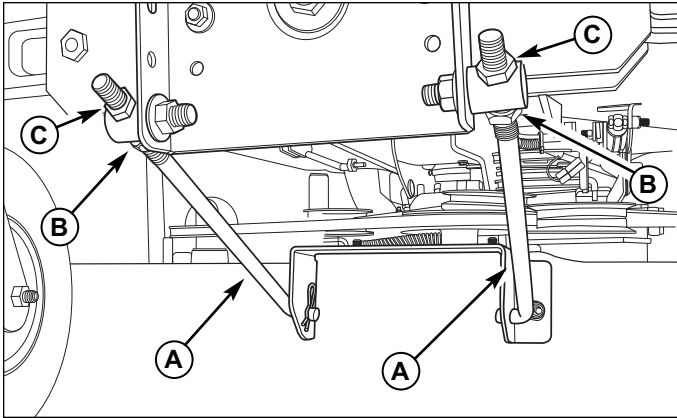

Figure 25. Mower Leveling - Front-to-Back
8. The front hitch rods (A, Figure 25) are used to adjust front-to-back leveling. To raise or lower the front of the mower deck, loosen the rear jam nuts (B) on both front hitch rods (A). Adjust the front jam nuts (C) on both hitch rods (A) to adjust the mower deck level. When adjusted correctly, tighten the rear jam nuts (B) to lock the front hitch rods in place.